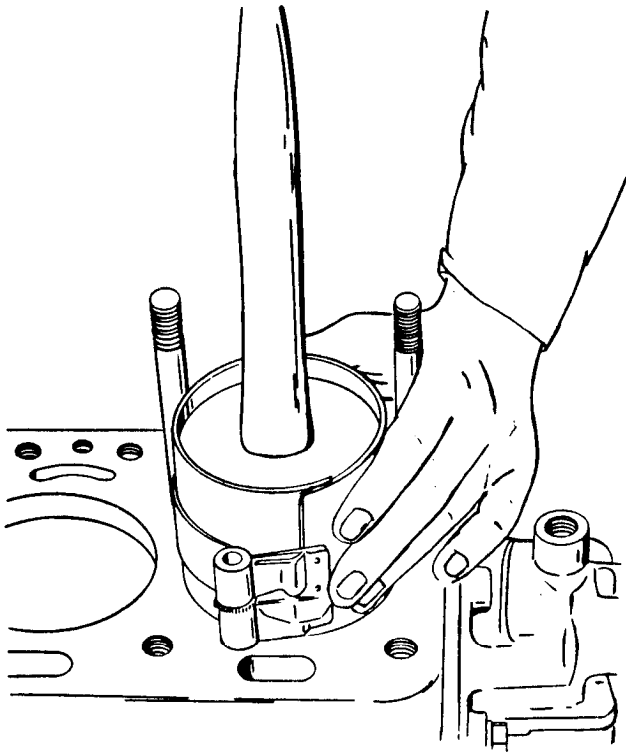

Figure 3-33. Piston Installation
of piston (2) to push piston into cylinder bore. See figure 3-33. Take care that connecting rod (11) is in line with crankshaft journal and will not score it.
j. With piston (2) entirely in cylinder bore, insert upper bearing (14) in connecting rod. Pull piston and rod assembly down until upper bearing seats firmly on crankshaft journal.